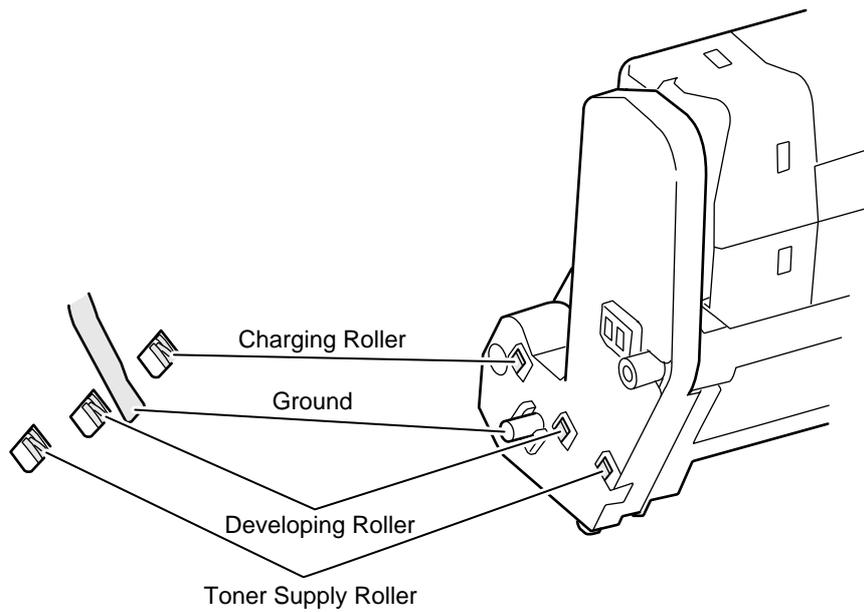

Figure 5.3
- ▼ NO Are the image drum pins connected to the contact assy properly (see figure 5-3 D)?
- ▼ NO Is the I/D terminal connected properly to the contact assembly? (See Fig. 5-3)
- ▼ NO Are the pins of the image drum units connected to the contact assy properly (see figure 5-3)?